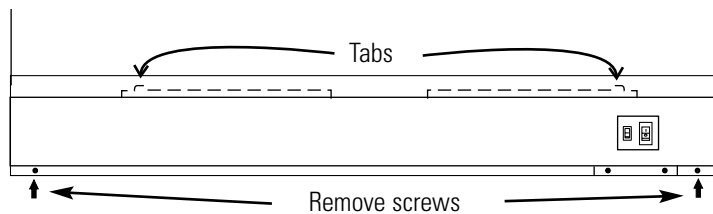

**Figure 1-3.** Leveling Feet
2. Install the neoprene pads under each of the units leveling feet (Figure 1-3).